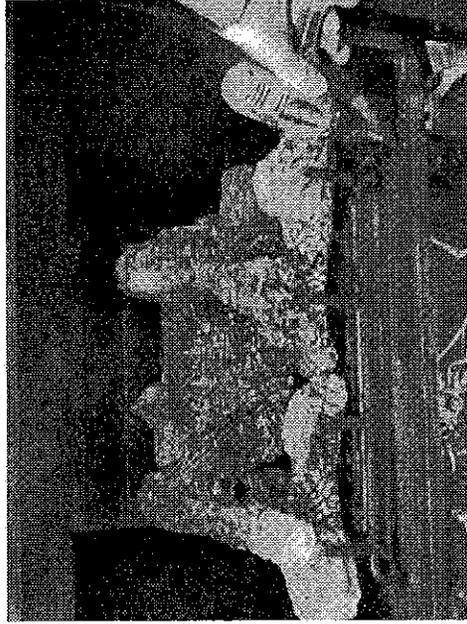

Figure 3.8 Loosen Grate
- Lift the two top logs off the log set. See Figure 3.8.
- Remove the grate/log assembly by removing the two screws as shown in Figure 3.8. Lift and pull the grate/log assembly from the front of the firebox.